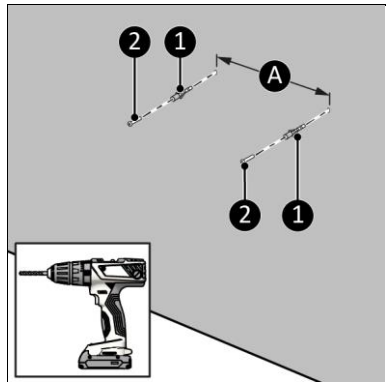

Figure 9
5. Drill two 8 mm holes 240 mm horizontally apart from each other at the required location (Figure 9, pos. A).
6. Insert the wall plugs into the holes (Figure 9, pos. 1).
7. Firmly screw the screws (Figure 9, pos. 2) into the wall plugs using a Philips screwdriver.